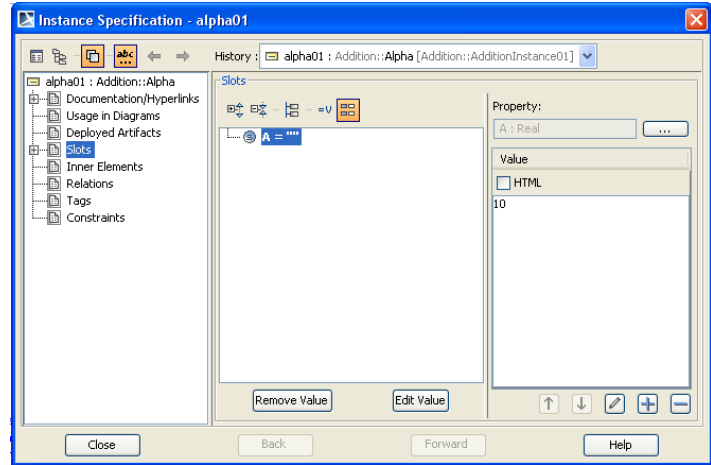

Figure 2.22 Setting value for A in Instance01
- iii. click on A = "" in central Instance Specification window (Figure 2.22),